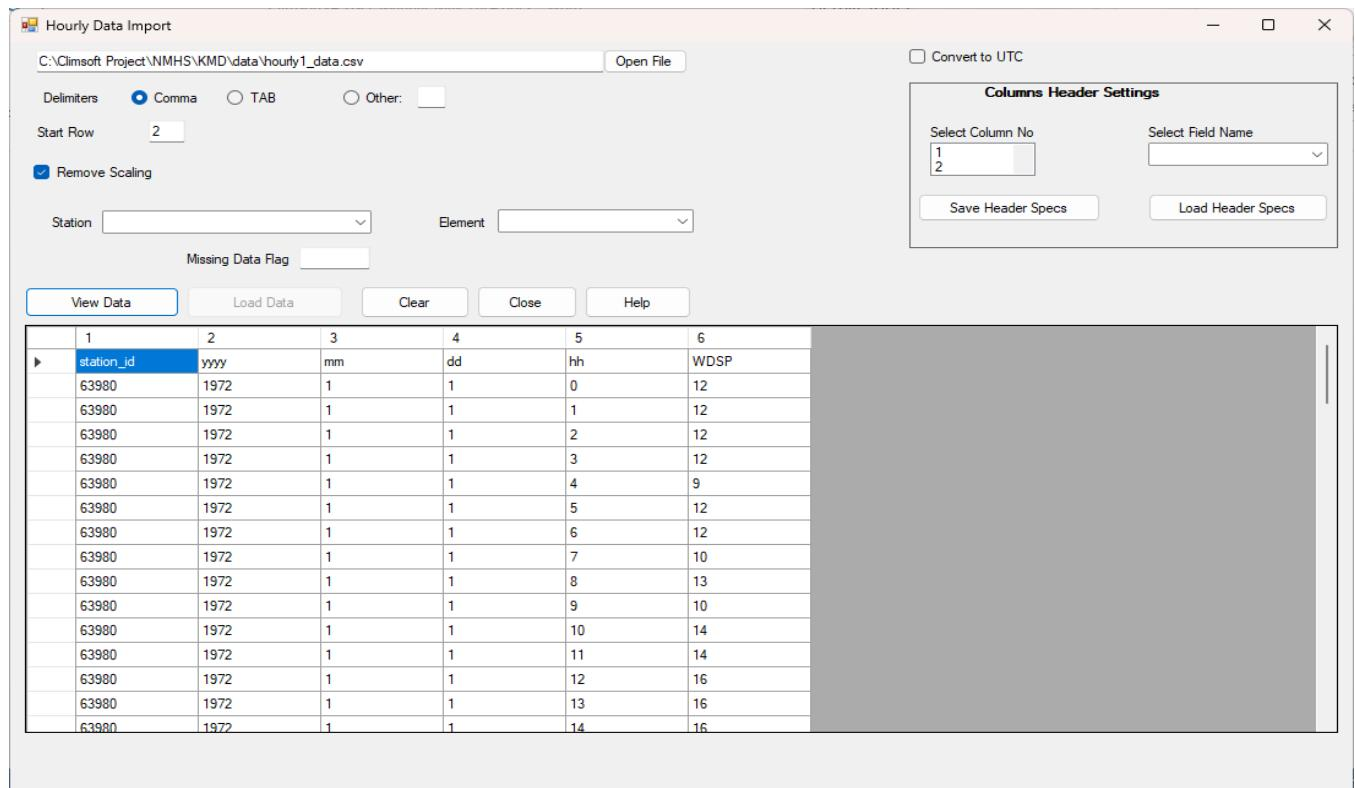

Figure 60: Importing Hourly Data
- After selecting “Hourly or Daily”, the dialog in *Figure 60* opens up. Click on “Open File” to browse and select the file containing data to transfer, specify the “delimiter” of the file to import e.g. comma (default), TAB or Others (type in the delimiter character). Check/uncheck the “remove scaling” box appropriately to ensure data is imported into “observationinitial” table without the decimal points. Click “View Data” button to view the data in a grid view (tabular form),